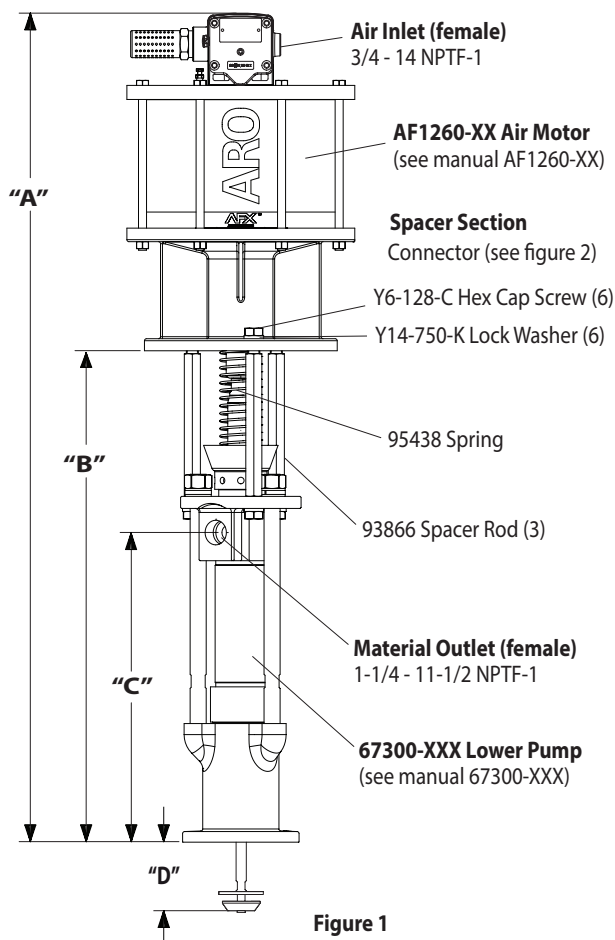

Figure 1
2. Remove the three (Y6-128-C) cap screws and (Y14-750-K) lock washers from the three (93866) spacer rods (see figure 1).